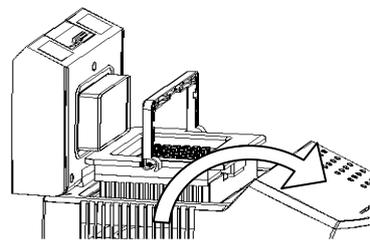

Figure 4
Step 2: Move the module parts upward slightly, and lay it in a safe place after the module parts are completely off the shell. (See Figure 4)